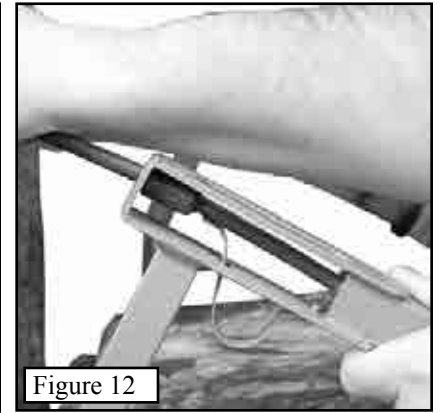

Figure 12
Step 3. Pull the cable towards the back of the tree and “seat” one of the cable stops against the back of the bracket, as shown in **Figure 12**. The QuickDraw cable spring will “lock” into place behind one of the cable stops.